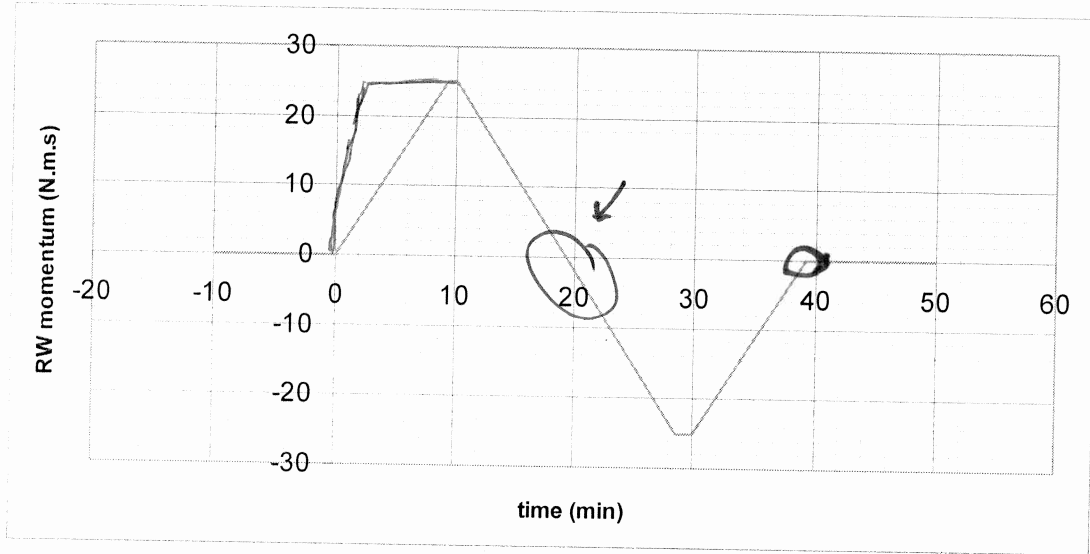

Figure A4-1: Reaction Wheel Profile Graphically
1) After tuning of the reaction wheel profile to reflect required slope (see Figure A4-1 of main procedure) repeat test without accelerometer measurement on redundant SMEC.